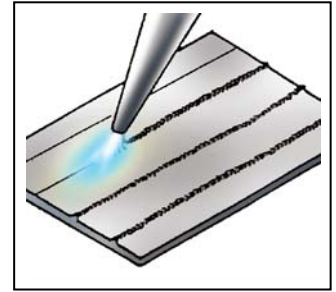

Figure 3
11. Continue moving the torch in the circular pattern and also move it forward at a speed that will keep the weld pool a uniform size and shape. Be sure to keep the tip of the inner flame cone inside the boundary of the weld pool but not touching the surface. Refer to Figure 3.